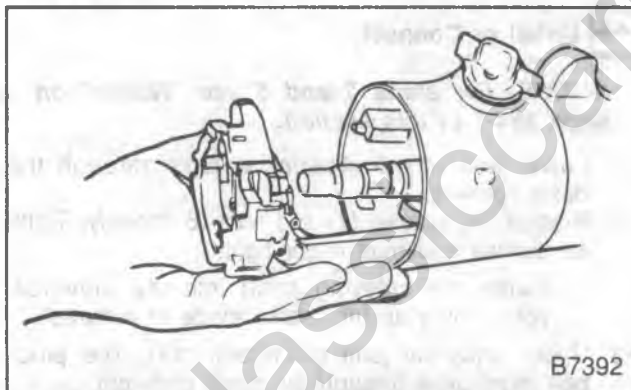

Figure 13—Turn Signal Switch Assembly Removal
8. Turn signal switch. Pull the switch straight up, guiding the wiring harness and cover through the column housing (figure 13).